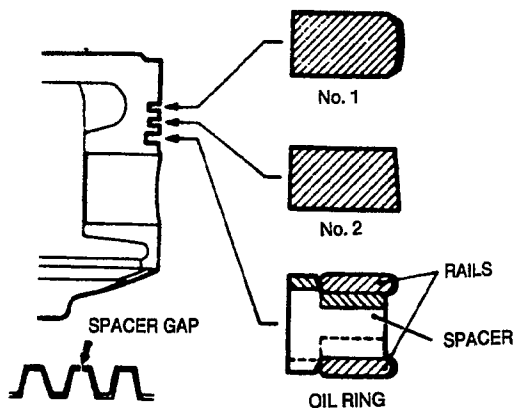

FIGURE 9-49. SEQUENCE OF RING INSTALLATION
2. Install the piston rings (No. 1 and No. 2) in the top and middle grooves. Be sure that the side which bears the size and manufacturer's mark face upward (toward the cylinder head). See Figure 9-49.
CAUTION When the oil ring side rails are installed, do not expand the open ends with a piston ring expander like the other piston rings. It is very thin and might be broken if expanded. Place one end between the groove and spacer, hold it firmly with the thumb and slide the other thumb down on the ring. See Figure 9-49.